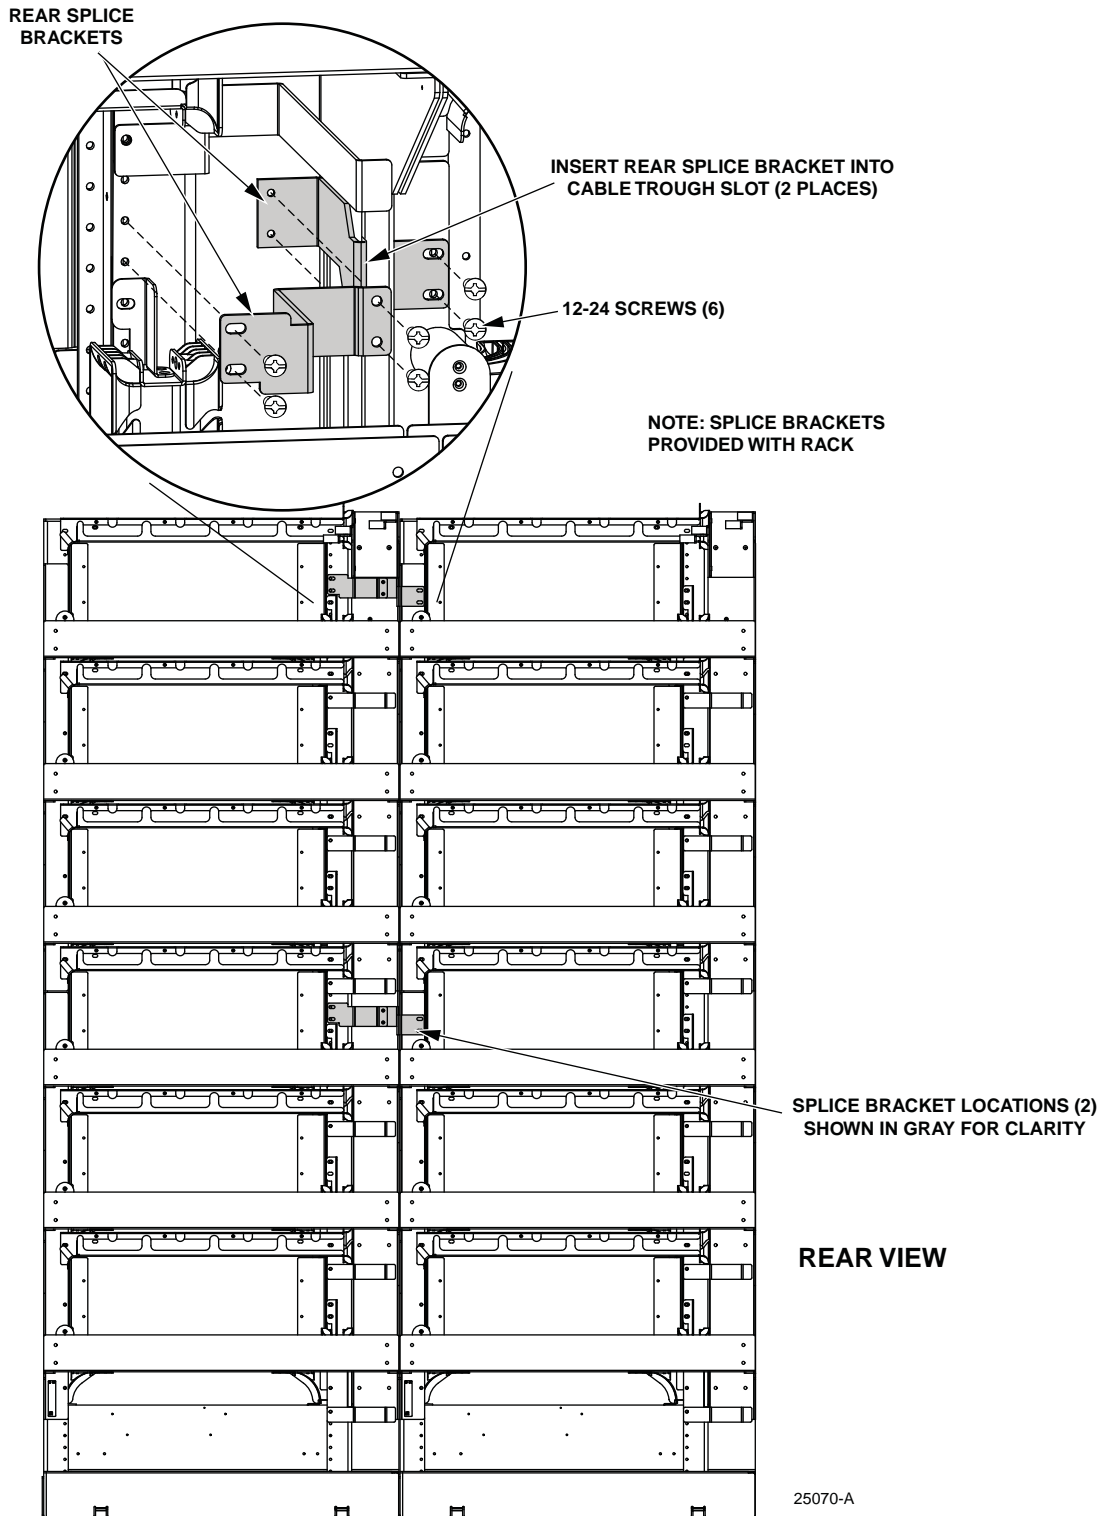

Figure 55. Installing Rear Splice Brackets
3. Install rear splice brackets. There are two sets of two brackets installed in the two locations shown in Figure 55.